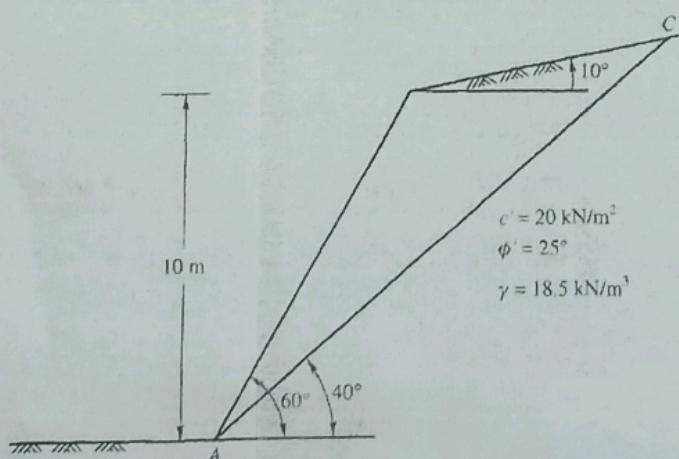

Figure 2.
B. Explain the use of sand pile & fender pile (3)
C. You have used plate load test & Equation of compression index for determination of settlement of shallow foundation on purely clay soil. Which will test give the best result? Explain the reason also. (3)
4. What will be the maximum slope angle of an infinite slope for sandy soil? Describe the reason also. (2)
5. A. Determine the factor of safety of slope (see figure 2). AC is the slip surface. (6)